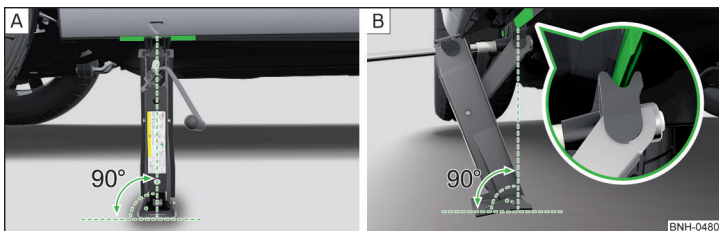

Fig. 135 **Attach lifting jack**
- Support the base plate of the jack with its full area resting on level ground and ensure that the jack is located in a vertical position at the jacking point » Fig. 135 - [A].
- Position the lifting jack below the jacking point with the crank and move it up until its claw encloses the web » Fig. 135 - [B].